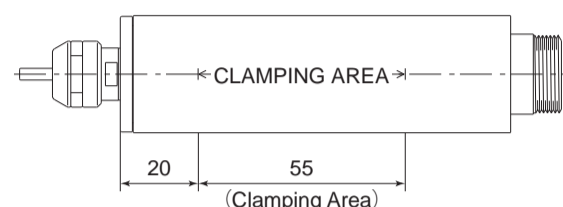

Fig. 8
- ① When mounting a Spindle, refer to the Clamping Area etched on the Spindle (Fig. 8).